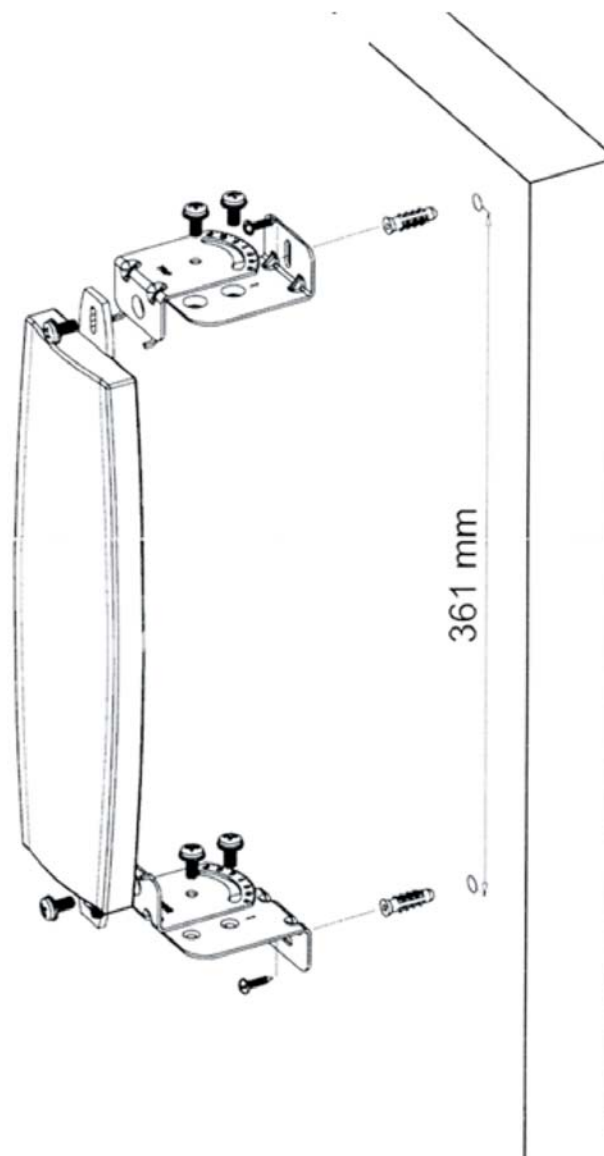

Figure 2-16: Wall Mount with Rotation Capability
- 2** Assemble the top L-type plate with the Wall-V L-type plate. Note, the Wall-V plate is the one with the vertical ellipse on the short side. Make sure the inscriptions are facing upwards. Use two M5 screws to fasten the plates together. Do not over tighten. See Figure 2-16.